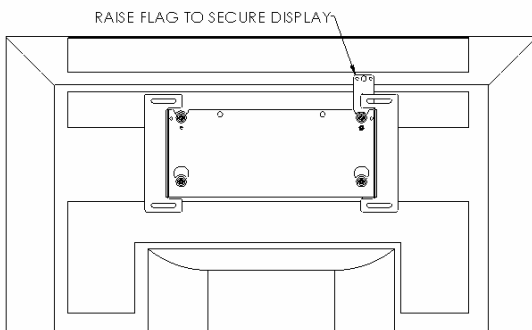
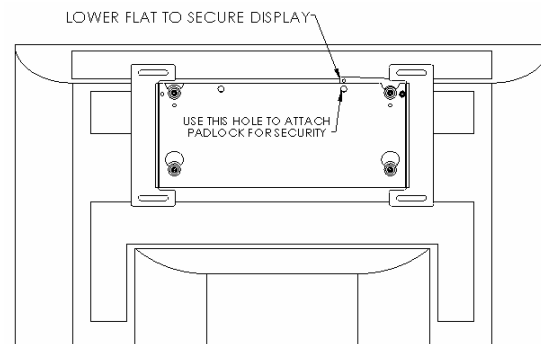

Figure 6
Figure 7
- 5) With the aid of another person, lift the display up to the mount, align the mounting buttons on the display with the teardrop slots in the mount, and set the display into place (see Figure 6 for 32" and see Figure 7 for 26" screen).